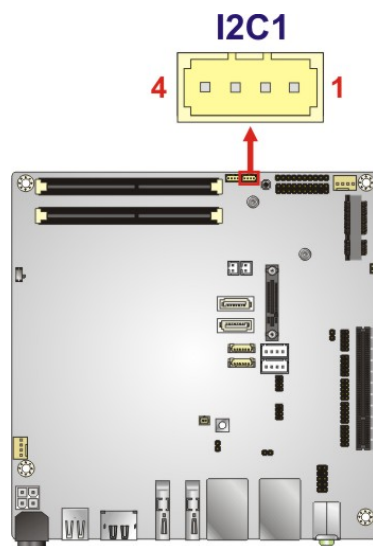

Figure 3-11: I²C Connector Location
- CN Location:** See **Figure 3-11**